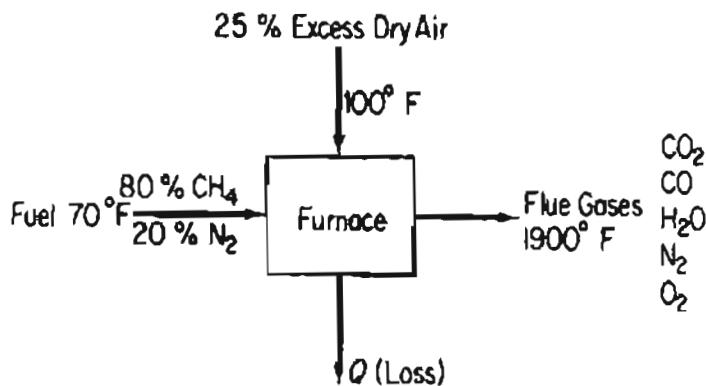

Figure P30.4
- 30.4** How many variables must be specified for the furnace shown in Figure P30.4 to absorb all the degrees of freedom?